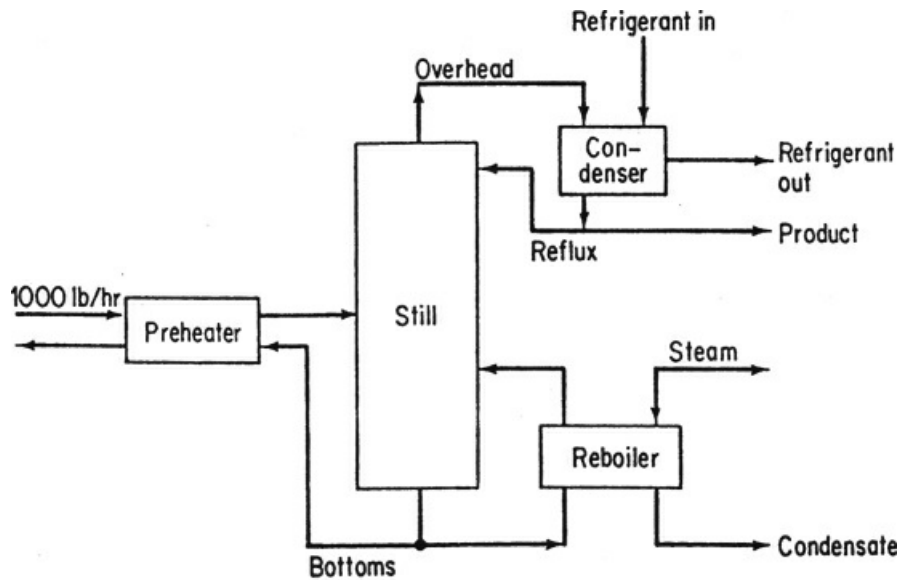

Figure P8.4.29
*****8.4.29** A distillation process has been set up to separate an ethylene-ethane mixture as shown in Figure P8.4.29. The product stream will consist of 98% ethylene, and it is desired to recover 97% of the ethylene in the feed. The feed, 1000 lb/hr of 35% ethylene, enters the preheater as a subcooled liquid (temperature = -100°F, pressure = 250 psia). The feed experiences a 20°F temperature rise before it enters the still. The heat capacity of liquid ethane may be considered to be constant and equal to 0.65 Btu/(lb)(°F), and the heat capacity of ethylene may be considered to be constant and equal to 0.55 Btu/(lb)(°F). Heat capacities and saturation temperatures of mixtures may be determined on a weight fraction basis. An optimum reflux ratio of 6.1 lb reflux/lb product has been previously determined and will be used. Operating pressure in the still will be 250 psia. Additional data are as follows: